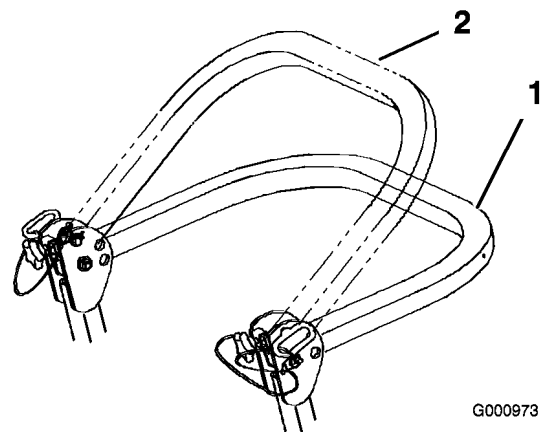

Figure 7
3. Lower the the roll bar to the down position. There are two down positions. See Figure 7 for the positions.